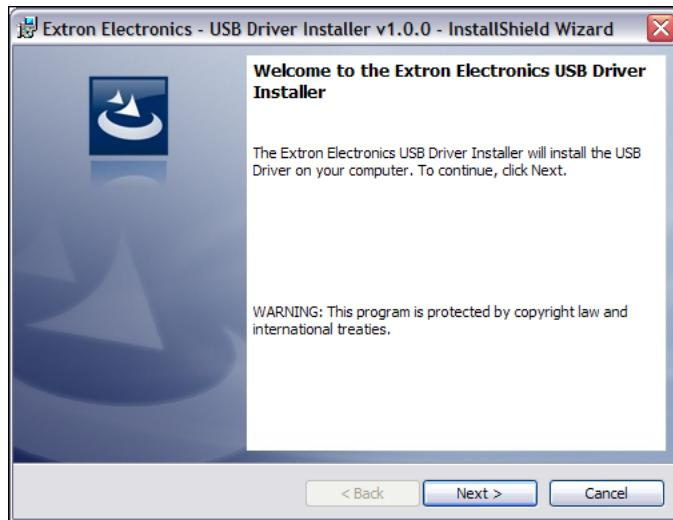

Figure 12. USB Installer Splash Screen
1. When the driver installation window appears (see figure 12), click **Next** to proceed.